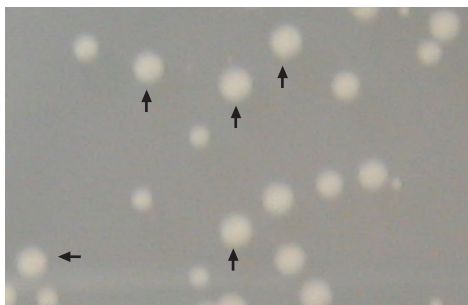

Figure 4. Typical plating result. Arrows indicate examples of larger colonies that are good choices for selection and screening by colony PCR.
12. The next day, the plate should contain a mixture of larger colonies and smaller colonies. Pick larger colonies for screening by colony PCR (Figure 4). Smaller colonies typically contain a mixture of Donor and Acceptor Vector DNA. Analyze clones by restriction digest to confirm your final construct. Plasmid(s) can be further propagated in either chloramphenicol or the antibiotic that is appropriate for the resistance marker of the Acceptor Vector.